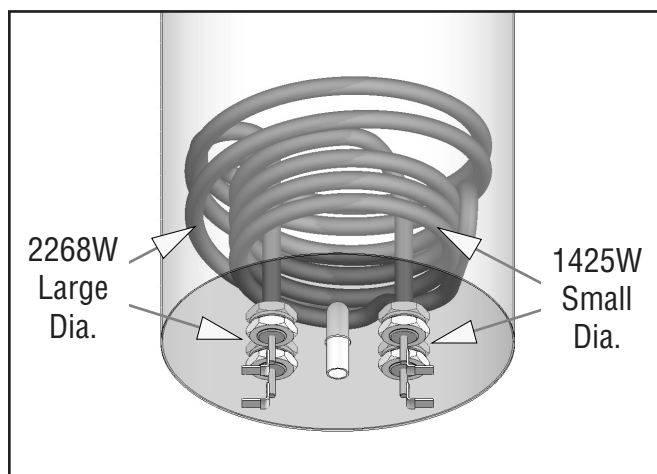

FIG. 20-2 DV TANK HEATERS
4. Select "YES". The display should show something similar to the screen below (FIG 20-2).